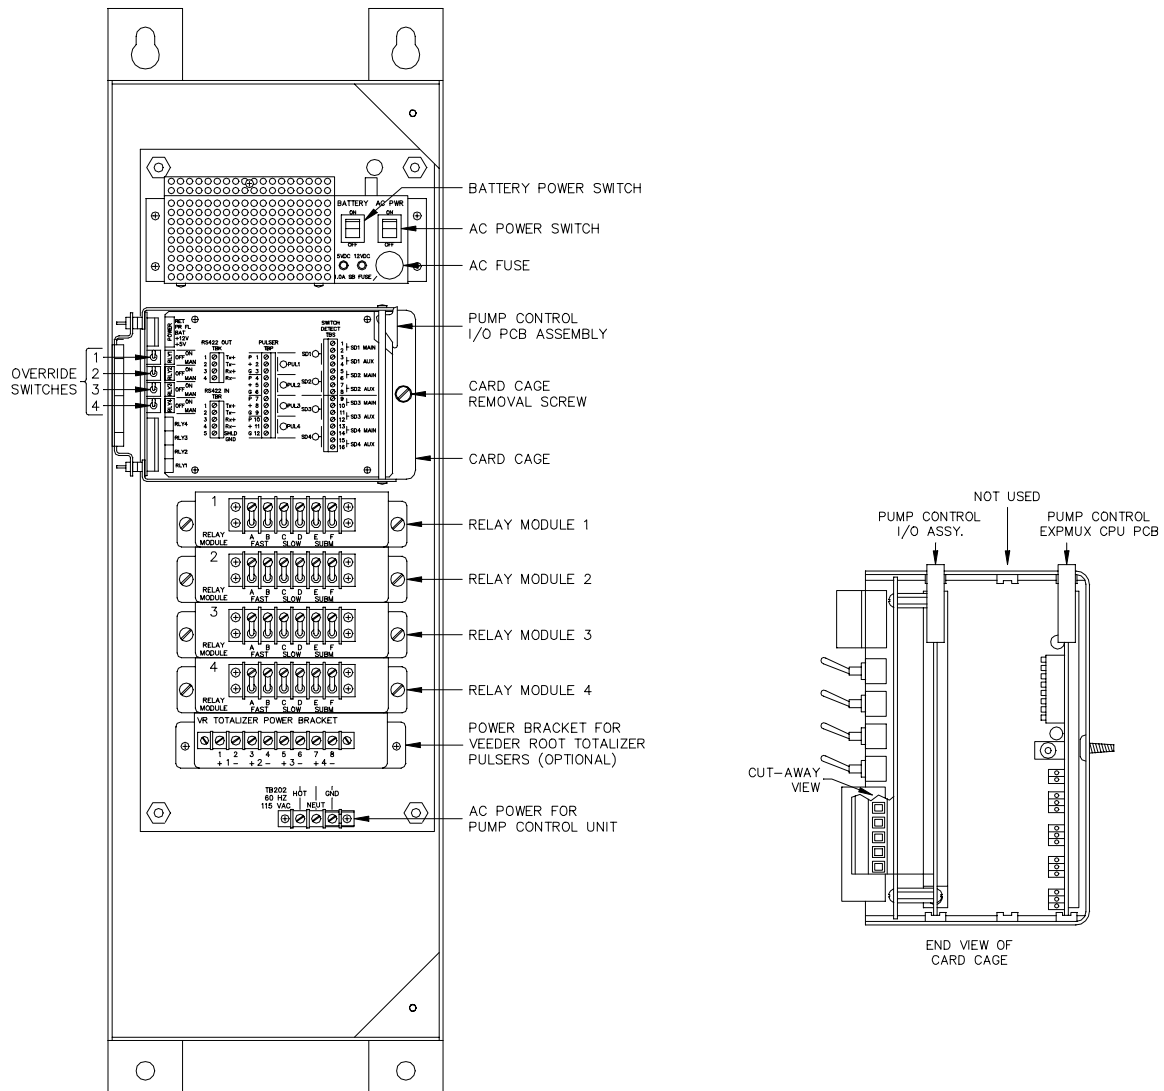

Figure 5-1. Pump Control Unit Component Location
Figure 5-1 shows the pump control unit layout. Refer to this layout when performing steps 1 through 5 on the next page.
2. Make sure all override switches are in the **AUTO** position. See Figure 5-1.